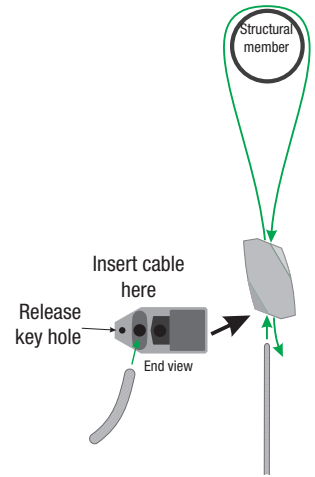

Figure 1
1. Insert the wire cable into the appropriate hole in the connector (see Figure 1). The connector's two holes are directional, so cable will only insert one way; if it will not go through, the cable is inserted into the wrong hole.